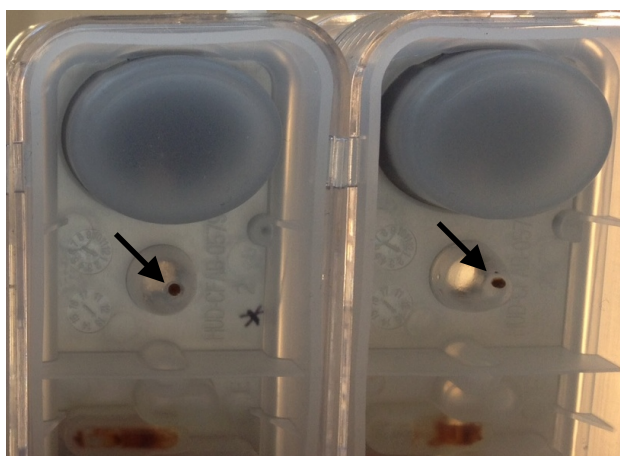

Figure 2: Picture of bead pellet in PCR well after cassette processing has completed.
2. Carefully, and without inverting the cassette, look underneath the cassette to see if there is a bead pellet (See Figure 2). If there is not, please contact iRepertoire at info@irepertoire.com.